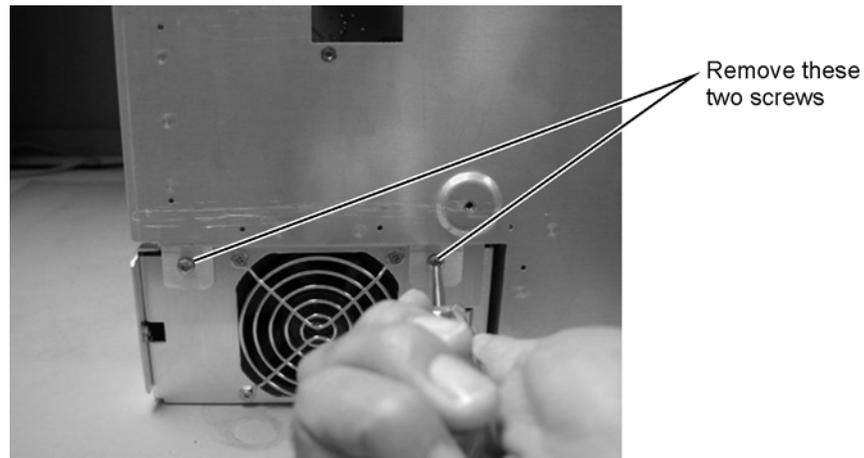

Figure 7-20. Removing the Screws Securing the Power Supply
- 2 Use a T-15 TORX driver to remove the two screws that secure the mainframe to the top of the A1 Power Supply, as shown in Figure 7-20.